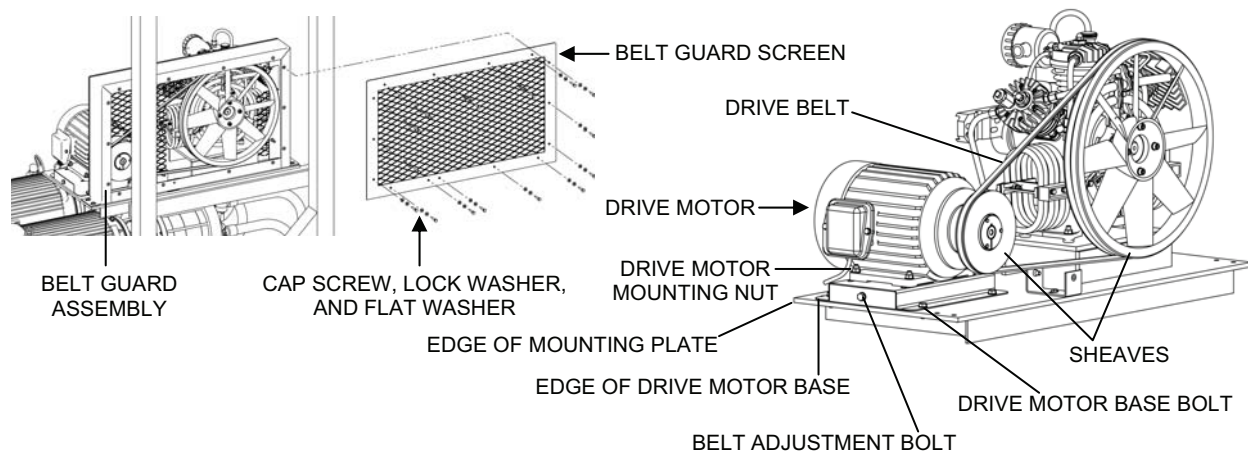

Figure 14. Drive Belt Replacement.
2. Remove the air compressor assembly drive belt as follows (see Figure 14):
5. Check the compressor and motor sheave alignment and adjust if necessary as follows (see Figure 14):